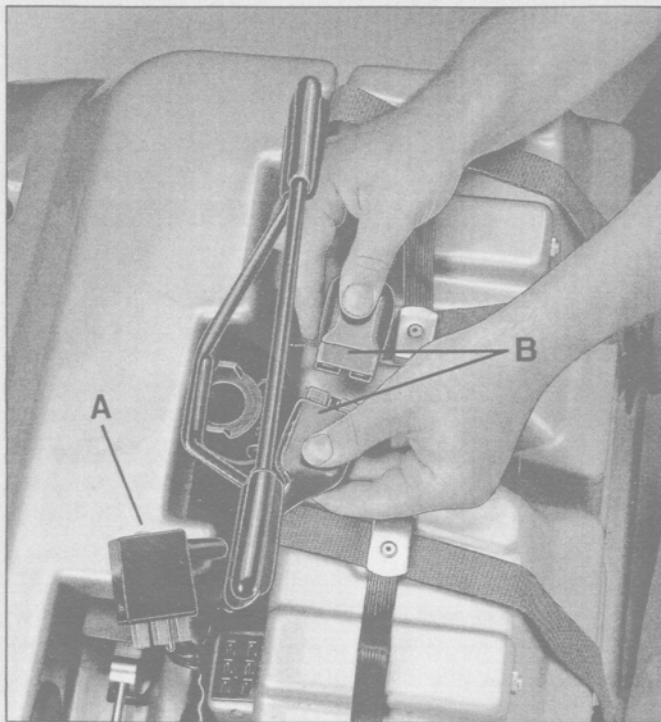

Fig. 6
Position the battery boxes onto the baseboard and locate the plug into the socket A (Figure 6). Now join the battery box connector plug B together.
To commence charging, remove the electrical plug (A) (FIG.6) from the battery box and replace it with the battery charger plug.